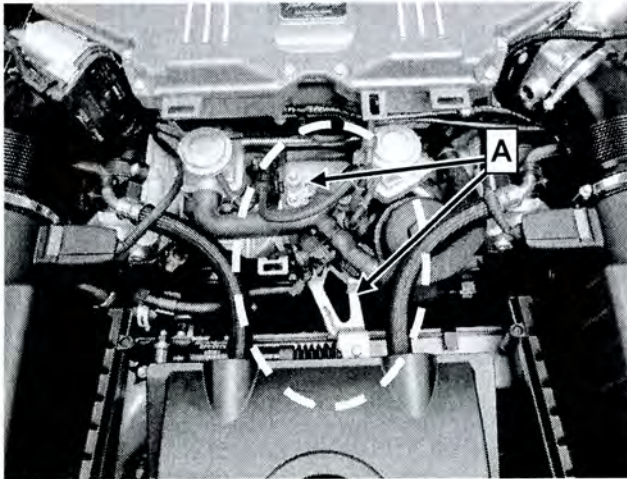

Figure 2
2.  Check if bracket installed on engine (A, Figure 2) is silver:
- If a **silver** bracket is **installed** on the engine (OK): Procedure is complete.